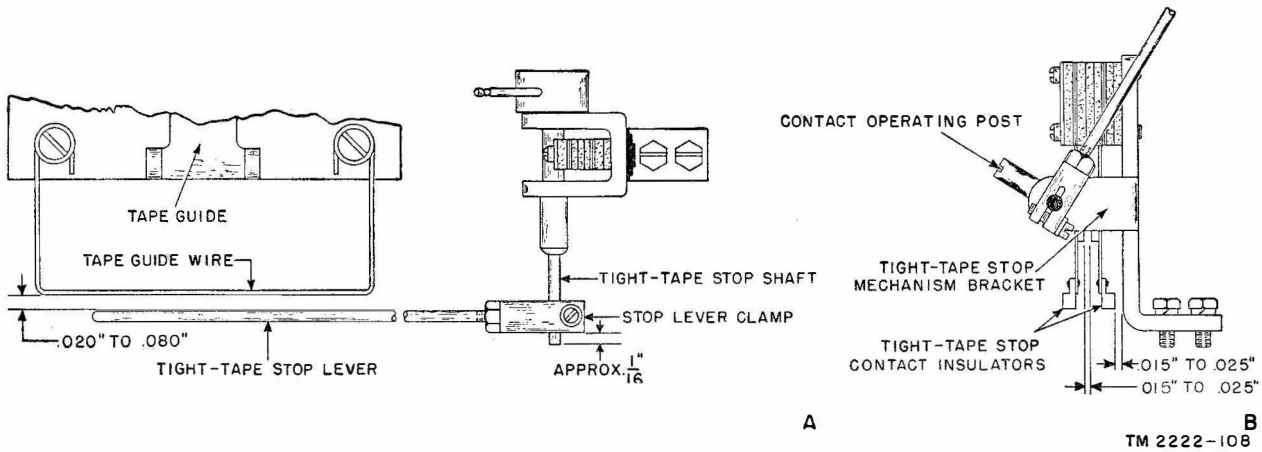

Figure 65. New style tight-tape stop mechanism requirements.
## 119. Tight-tape Stop (Auto-stop) Mechanism (figs. 65, 66, and 67).
- (1) *New style* (fig. 65).
(a) When the contacts are held closed by the contact operating post, the bottom of the tight-tape stop lever should be horizontal and the tight-tape stop shaft should protrude approximately  $\frac{1}{16}$  inch beyond the clamp (A, fig. 65).
(b) There should be a clearance of 0.015 to 0.025 inch between the contact points and a clearance of 0.015 to 0.025 inch between the right contact spring insulator and the tight-tape stop mechanism bracket when the contact operating post is held away from the left contact spring insulator (B, fig. 65).
## 125. Tape Guide Wire (A, fig. 65)